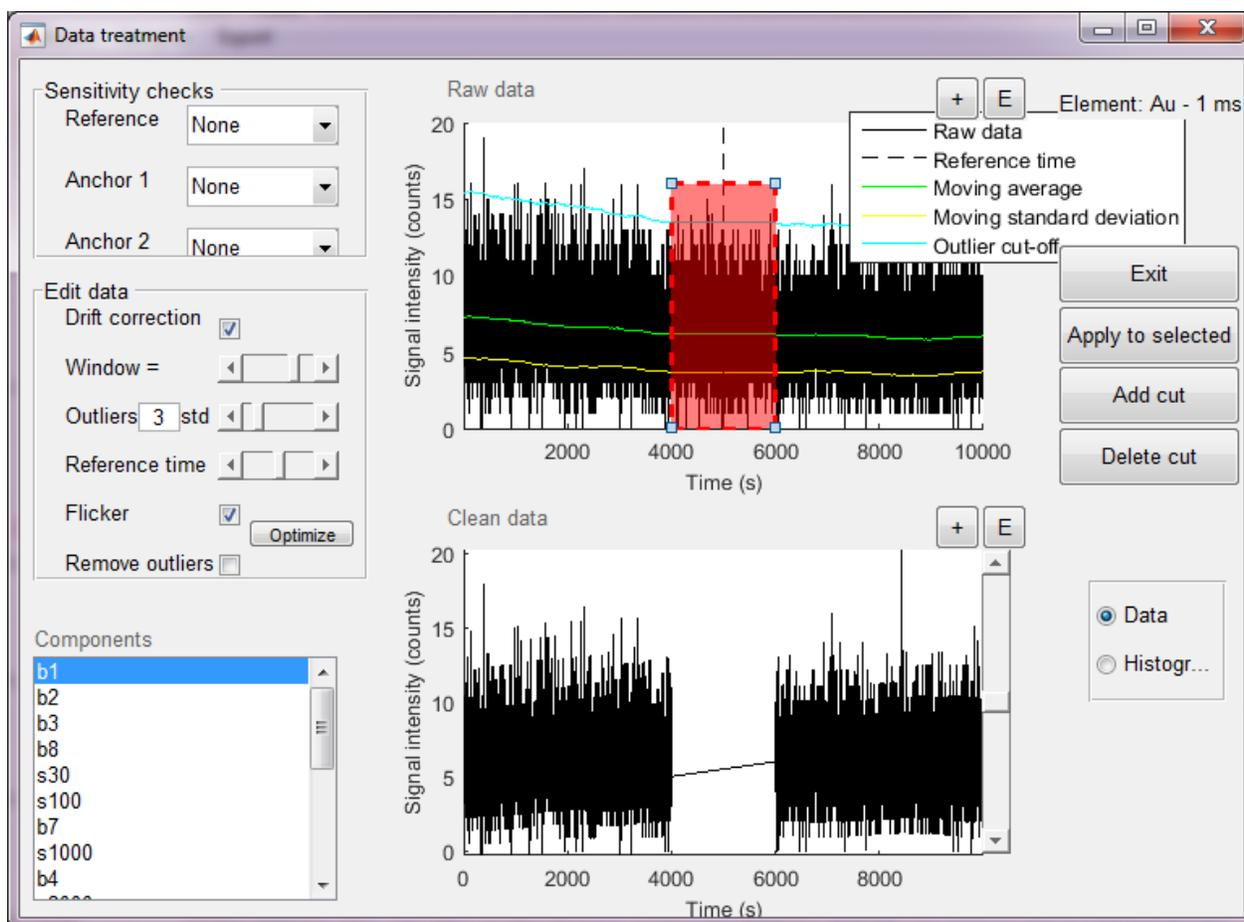

Figure 21 The Data treatment tool.
The data treatment tool (Figure 21) mainly serves to remediate as much as possible drift and experimental “accidents” incurred. spICP-MS relies on absolute stability, or at least predictable noise in the signal, but in practice, this stability may be disturbed at times. The data treatment tool can thus serve to compensate for deviations in the general signal level (drift), occurrences of unwanted nanoparticle peaks or the user can cut out unreliable parts of the data.
When correcting data, the data indicated in cuts is removed and not taken into account in any further calculations (red box in Figure 21). spICP-MS data arrays are typically long (> 10000) so cutting out smaller parts of the data often does not compromise accuracy of the final results. Highly compromised data regions can thus be cut out if none of the other data treatment tools suffices to obtain a satisfactory signal.
A simple moving average algorithm is used to discover the overall drift trend of the data (green line in Figure 21). The window length (a.k.a. “period”) of this moving average can be changed and optimized in the data treatment tool.
The intensity of the moving average at the **reference time** (vertical dotted line in Figure 21) defines the signal level to which the data will be corrected. This means the data will be “straightened” so that it is on average equal to the reference level over the whole time range. It is often, however, unclear where the true signal level should have occurred, e.g. when drift is pronounced as in Figure 21. Most often, it is the lowest average signal level. The local standard deviation at the reference time is also the standard deviation to which the data will be corrected if flicker correction is used as an option
Signals that occur at higher levels usually also have a higher standard deviation because the flicker noise increases with average intensity. This means that when signals are corrected only using the splines to the reference level that the standard deviation in parts of the data might differ from the rest of the data. For instance, the data occurring at time  $t < 3000$  s in Figure 21 has a higher standard deviation than the data at  $t > 70$  s, because drift has caused both a higher signal intensity as well as a higher standard deviation. When the Flicker correction option is chosen, not only the average level is corrected, but also the time dependent standard deviation of the signal.
- The upper graph shows the raw, joined data from the selected component. In this case it may be recognised that the data consisted of only one segment (this is the case in Figure 21, but note that there was zoomed in on the raw data). This graph also shows several lines
- “Remove outliers”: When this box is not ticked, outliers are only removed when calculating moving averages and/or local standard deviations. When the box is ticked, however, the outlier data is effectively removed from the cleaned data. This is shown in Figure 21 where this utility is especially useful for correcting data of dissolved standards. It may for instance happen that nanoparticle signals appear even in these (e.g. because of contamination). Cutting out extreme outliers is recommended in this case because doing such dramatically improves calibration, especially if a deconvolution option is used where noise models are to be fitted. Note that regardless of whether this box is ticked, the splines are always calculated without taking the outliers into account.